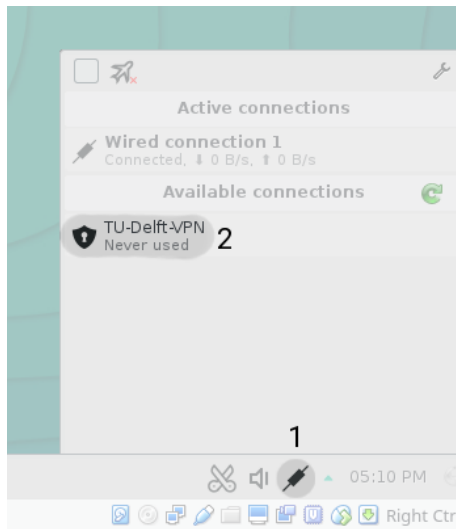

Figure 2.1: Enabling the VPN connection.
- **Set group nr. and netID** This script will configure the virtual machine for your group number, select the benchmarks that you will be using, and configure the VPN connection using your netID. When you work from home on assignment 2, you will need this VPN connection to get access to the TU Delft license servers to run simulation and synthesis. Figure 2.1 shows how to enable the VPN connection. If the virtual machine asks you for a wallet password, press cancel, until it presents you with a VPN secrets dialog with two password fields. The first should be your netID password, the second should be set to ‘wireless’.